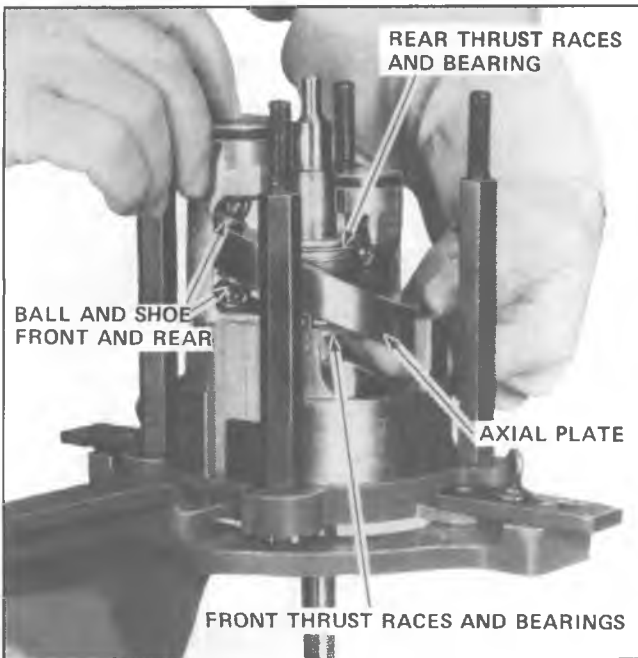

Fig. 52--Installing 2nd A-6 Piston
4. Repeat this operation for Pistons No. 2 and No. 3 (Fig. 52).